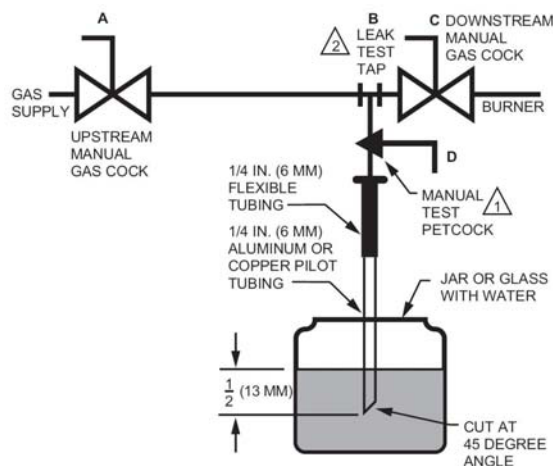

Figure 6.6 Test Setup Diagram
This test is to check the closure tightness of the gas shutoff valve. It should only be performed by trained, experienced, flame safeguard technicians during the initial start up of the burner system or whenever the valve is to be replaced. This test should also be included in the scheduled maintenance and inspection procedures. For the test below, refer to figures 6.6 and 6.7 below.
- 3) Make sure the manual test petcock (D) is closed in the leak test tap assembly
- 6) Open the upstream manual gas cock (A) to re-pressurize the first safety shut off valve.
- 7) Immerse the 1/4in. tube vertically 1/2 in. in a jar of water, see figure 6.6.
- 8) Slowly open the manual test petcock (F).